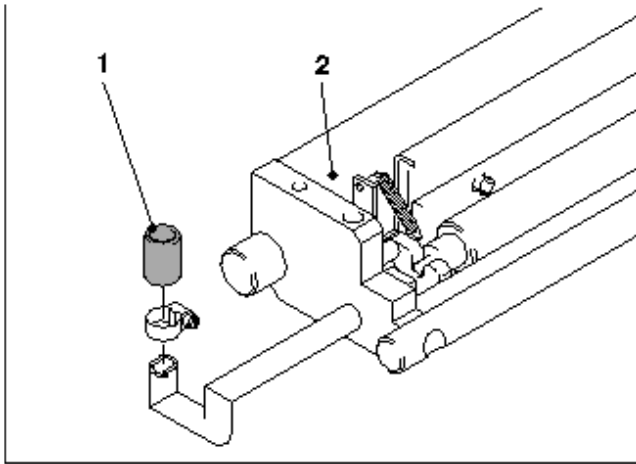
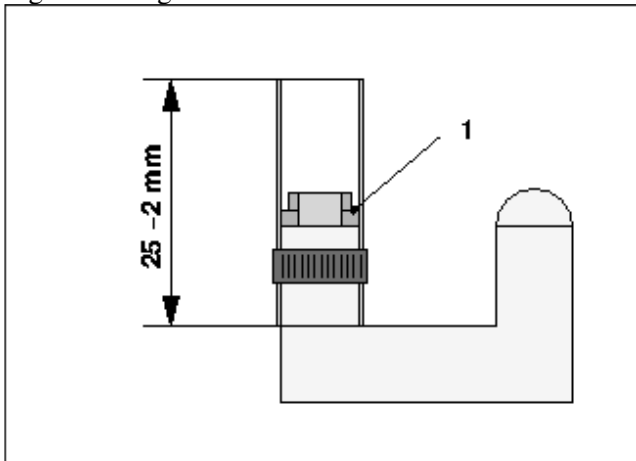

Fig. 26 Filling hose on D.S.
Fig. 27 Length of the filling hose
2. Remove the blanket washup device (Fig. 26 /2) from the corresponding printing unit.
Always ensure that the filling level (Fig. 27 /1) is not exceeded.
3. Check that the length of the filling hose (Fig. 26 /1) is **25 - 2 mm** (Fig. 27). Shorten it if necessary.